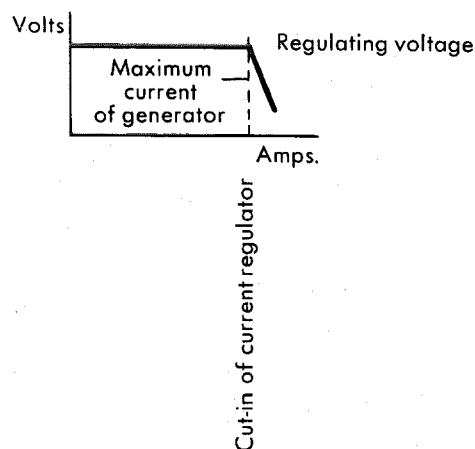

Fig. 15 — 10/1
The following assemblies are fitted in the regulator housing (see Fig. 15—10/2):
Spring-loaded contacts are incorporated in the exciter circuit of the generator and are opened by means of an electro-magnet which in turn is operated by the generator voltage as soon as the nominal voltage is exceeded (see Fig. 15—10/2, Circuit Diagram ④). When the contacts are opened, a resistance is switched into the exciter current circuit, causing the generator voltage to drop. The magnetic force of the electro-magnet is correspondingly weakened as a result so that the contacts can once more be closed by the pressure of the spring. Thus the suitable average exciter current for the various operating conditions of the generator is conveyed to it by means of a periodic strengthening and weakening of the exciter current. In this way, the regulator operates in the so-called lower regulation range at low engine speeds (see Fig. 15—10/2, Circuit Diagram ⑥). At high engine speeds, the regulator operates in the higher regulation range (see Fig. 15—10/2, Circuit Diagram ⑦). In this regulation range, the exciter coil is periodically shorted out.
The spring-loaded contacts of the current regulator are in series with the contacts of the voltage regulator in the exciter current circuit (see Fig. 15—10/2, Circuit Diagram ④). The contacts are opened by an electro-magnet which in turn is governed by the strength of the charging current as soon as the maximum permissible charging current has been reached (see Fig. 15—10/2, Circuit Diagram ⑧). When the contacts are opened, a resistance is switched into the exciter current circuit and this resistance causes the generator voltage to drop off sharply (Fig. 15—10/1).
The switch connects the generator to the battery as soon as the voltage of the generator is higher than the battery voltage (see Fig. 15 — 10/2, Circuit Diagrams ④ and ⑤). As in the case of the voltage regulator, the contacts are closed via the voltage coil by an electro-magnet which is governed by the voltage of the generator.